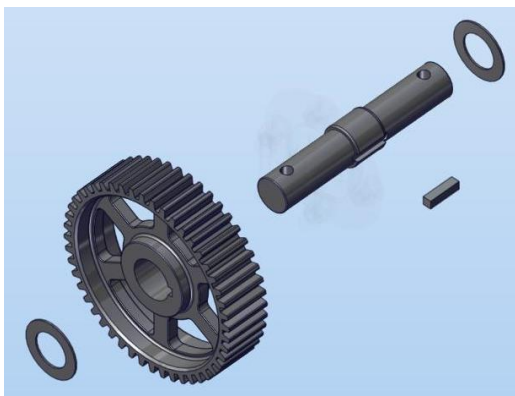

Figure 255
8. Install the drive key in the shaft. Press the drive gear on the output shaft. Install the washers on each side of the gear. Figure 255